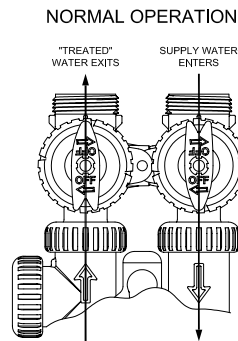

figure 1
1. Normal Operation Position: The inlet and outlet handles point in the direction of flow indicated by the engraved arrows on the control valve. Water flows through the control valve during normal operation and this position also allows the control valve to isolate the media bed during the regeneration cycle. (see figure 1)
When water is flowing steadily to drain without the presence of air, momentarily press **REGEN** again. Display will read **RINSE**. Open the outlet valve of the conditioner, or if using optional bypass place to **NORMAL OPERATION MODE** (see figure 1 on page 4). Allow control to finish the **RINSE** cycle. Allow the control to automatically advance to the **SOFTENING** position. Now load the brine tank with salt. Solar Salt is recommended. The brine tank salt level should be checked every couple of weeks to determine salt usage. Keeping the brine tank salt level at least 1/2 full is recommended.